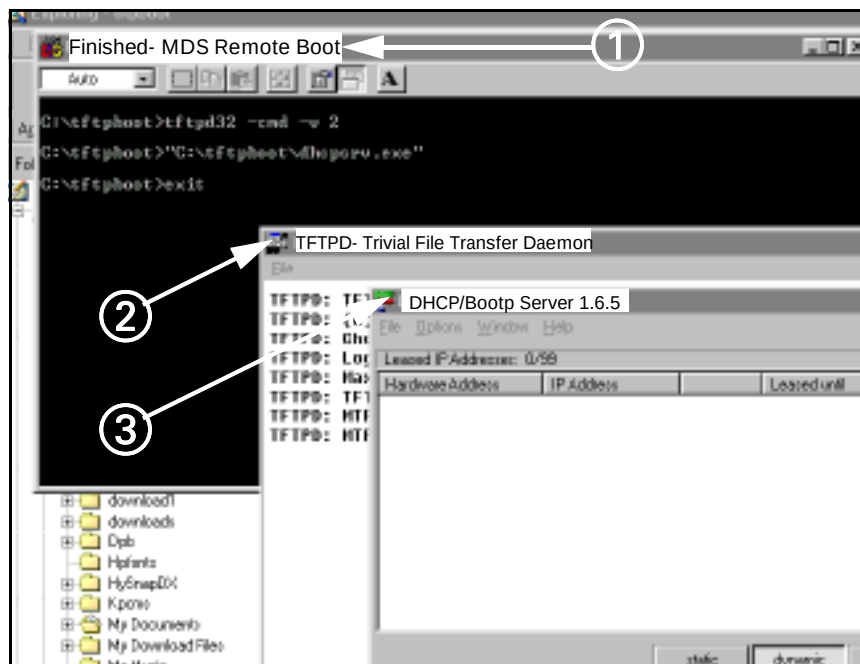

Figure 3-13 Window TFTP
5. Verify “Finished - MDS Remote Boot” window (① in Figure 3-13) opens, then “TFTP - Trivial File Transfer Daemon” window (② in Figure 3-13) opens, then DHCP/Bootp Server 1.6.5 window (③ in Figure 3-13) opens. If windows not displayed repeat steps 2-4 above.
Note: DHCP/Boottp Server 1.6.5 window may open minimized. If window is not displayed on Main screen, (③ in Figure 3-13) check to see if program is in Windows Task bar at bottom of screen.